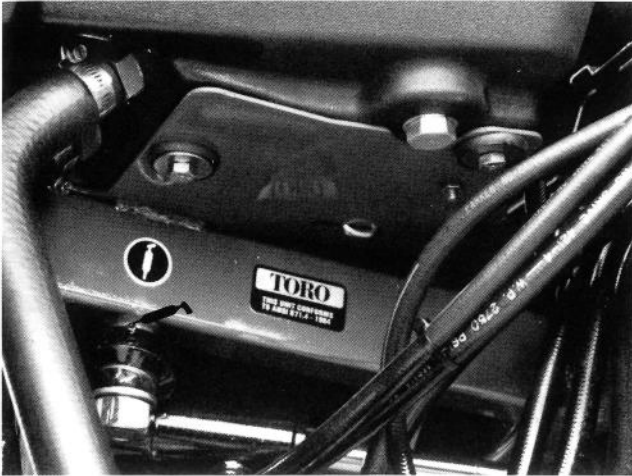
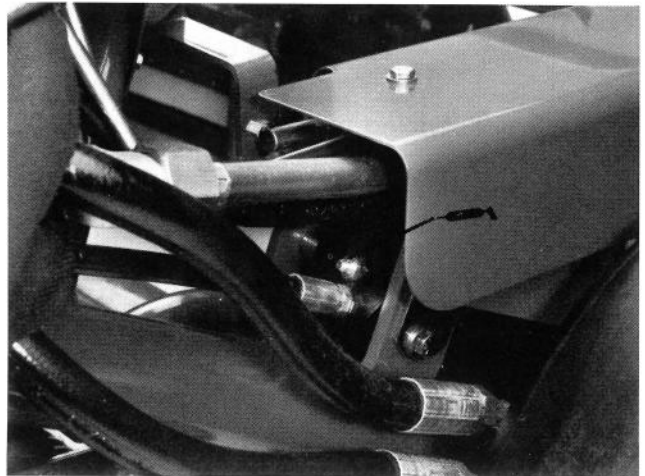
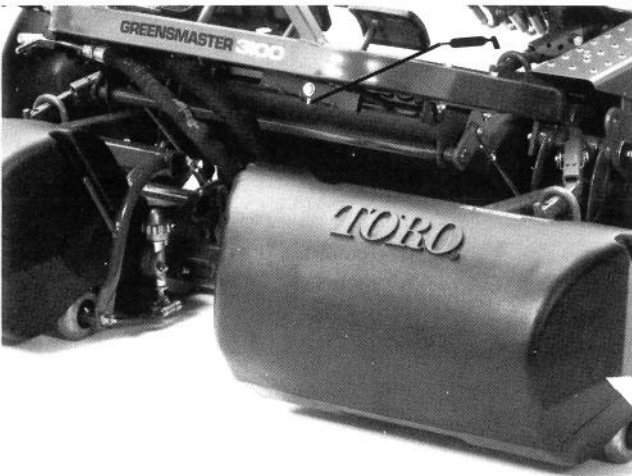

Figure 30
Figure 32
Figure 31
The traction unit bearings and bushings that must be lubricated are: Rear wheel bearings (1) (Fig. 26), Steering fork shaft (1) (Fig. 27), Lift arm pivot (3), Pivot hinge (3) (Fig. 28), Pull frame shaft and roller (12) (Fig. 29), Power steering cylinder (1) (Fig. 30), Mow lift pivot (1) (Fig. 31) and Lift cylinders (3) (Fig. 32)